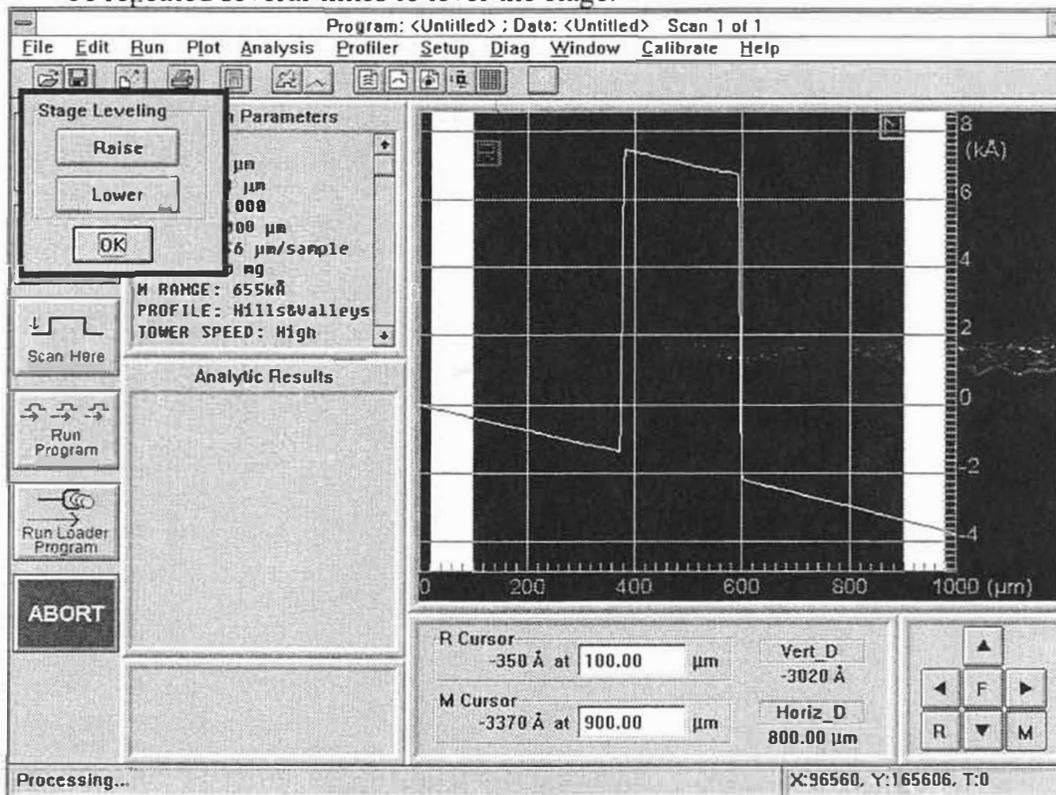

Figure 4-7. Stage Leveling Window
1. To use the power leveling, click-on "Profiler" from the system menu bar and click-on "Power Leveling". The stage leveling window will be displayed (see Figure 4-7). This window allows the stage to be raised or lowered at one end to adjust the level.